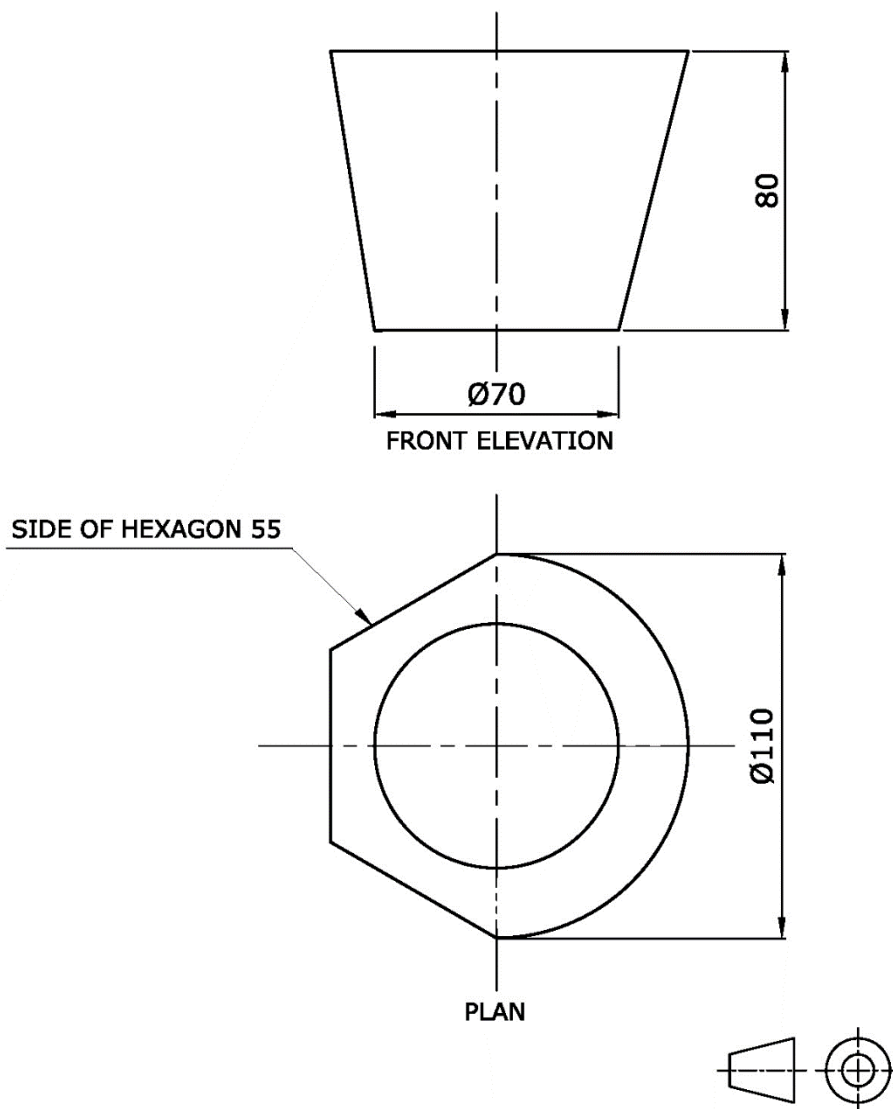

Figure 6b
- a) Copy, full size, the outline of the **TWO** views shown in Figure 6b. (2)
- b) Construct the necessary true length required for the development of the transition piece. The appropriate method used for finding the true length is to be clear and neat using light sharp lines. (3)
- c) Draw half surface development of the transition piece using the triangulation method. Annotate the drawing by letters / numbers so that the method used is clear and easily followed. (8)